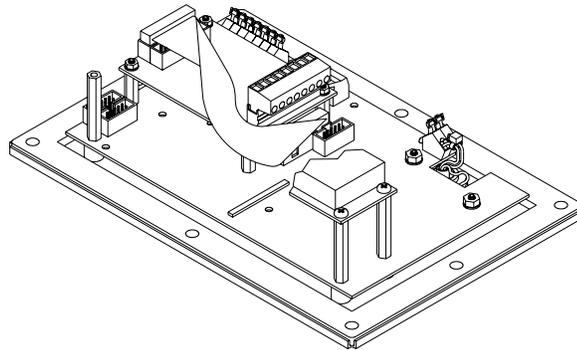

Figure 4: Model 465 Setpoint Installation
2. Install the 4 M3 Male-Female aluminum standoffs on the 4 short studs protruding through the main board using a 6mm socket or wrench. See Figure 4.